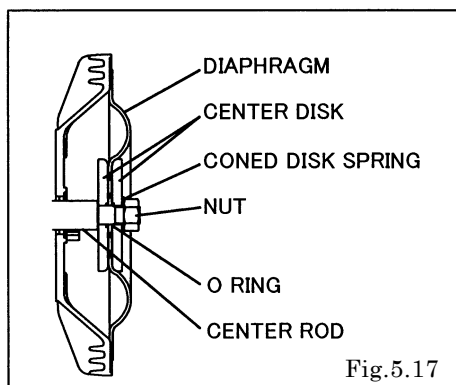

Fig.5.17
- Keep the convex side to the outside. [cf. Fig.5.17]
- Put the O rings to both sides of the diaphragm. (cf. Fig.5.17)